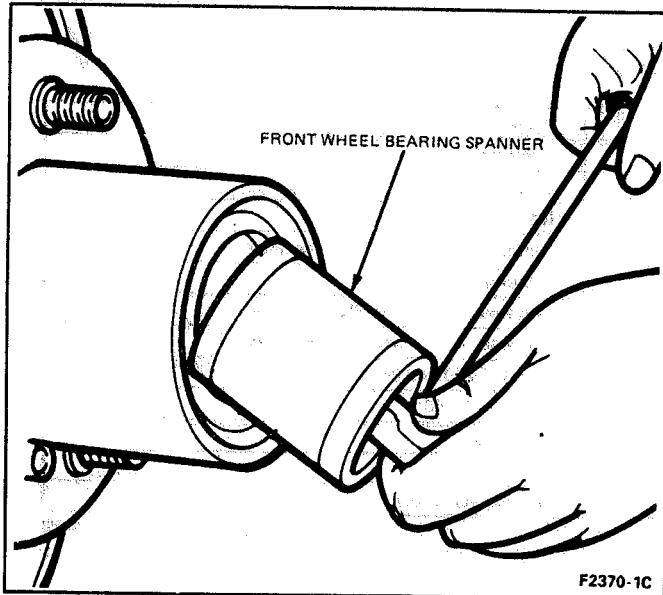

FIG. 9 Lock Nut, Lock Ring and Adjusting Nut Removal
4. Remove the wheel bearing lock nut, lock ring, and adjusting nut (Fig. 9), using Front Wheel Bearing Spanner T59T-1197-B for F-150—F-250, and Bronco or D78T-1197-A for F-350 and F-250 H.D.